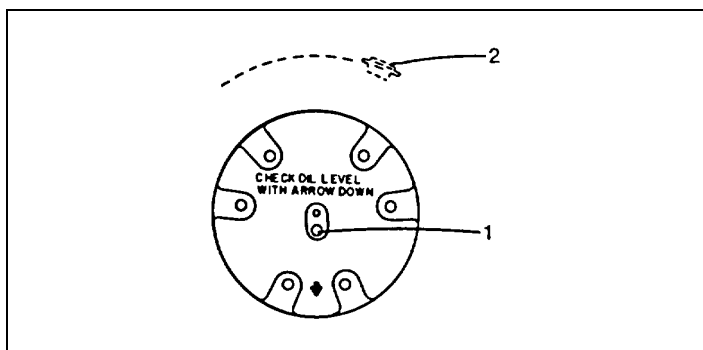

Fig. 2-4
- (b) Rotate the wheel end until the arrow on the thrust cap is down as shown in Fig. 2-4. Set the parking brake. Shut off the engine.